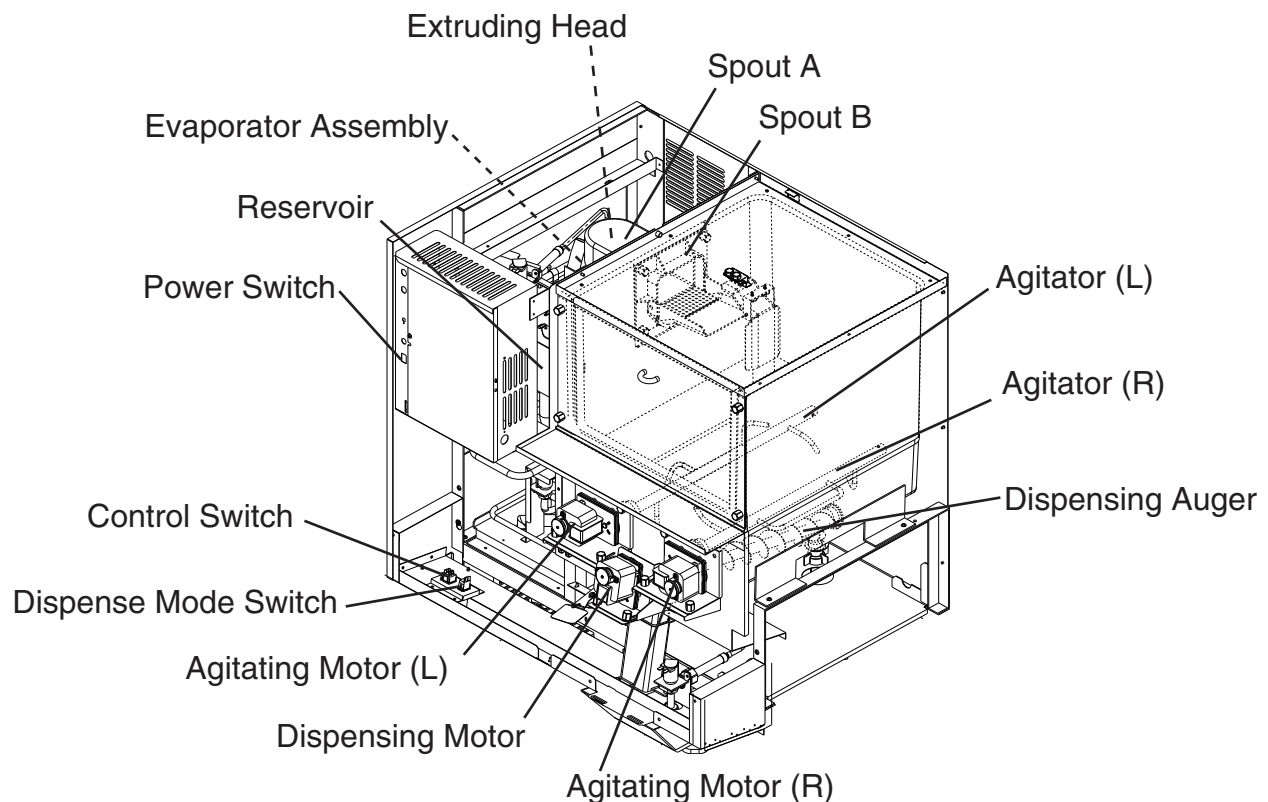

Fig. 6
- 5) Remove the front cover of the storage bin. Remove spout B, then remove spout A. See Fig. 6.
- 4) Remove the motor bracket thumbscrews, first from the vertical plane and then from the horizontal plane. While holding on to the corresponding agitator or auger, move the agitating motor or the dispensing motor towards you. Remove the agitators and the dispensing auger from the storage bin. See Fig. 6.